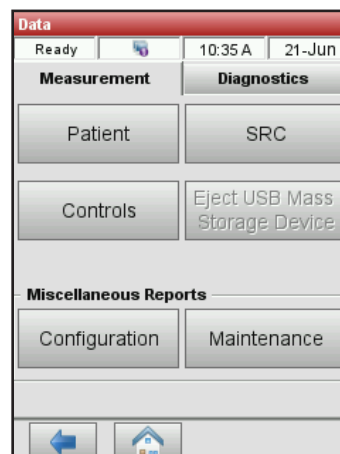

Figure 9. Data screen
2. In the Measurement section, tap **Controls** (figure 9).